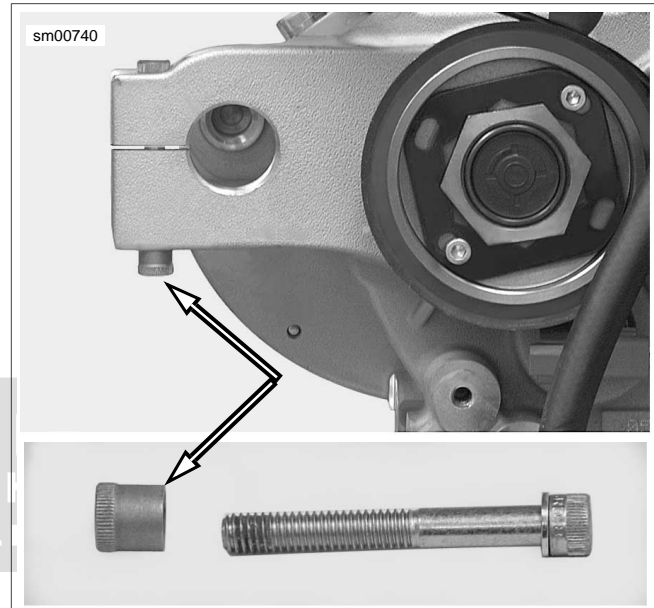

Figure 3-26. Threaded Insert
- c. See Figure 3-26. Apply LOCTITE 242 (blue) to swingarm pivot shaft pinch bolt threaded insert and install.